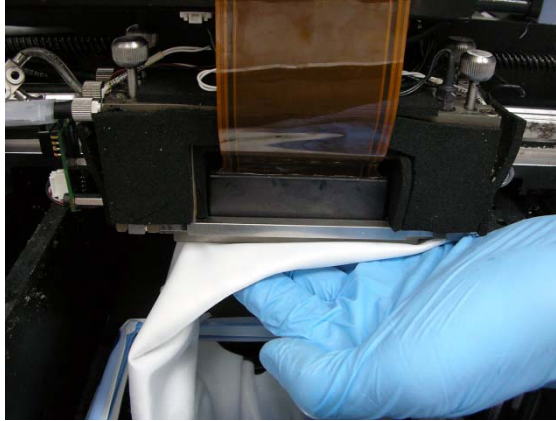

Figure 7-22: Cleaning the heads
9. Clean the orifice plates, with a back-and-forth motion (see figure 7-22). Use the mirror to make sure that you have removed all of the residue material.